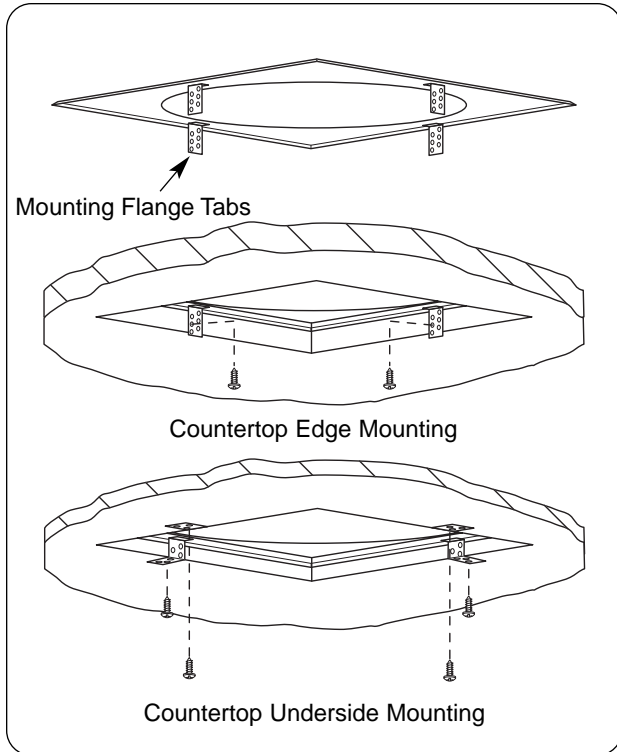

Figure 9. Installation of Mounting Flange Kit
5. Secure mounting flange tabs to edge or underside of combustible countertop using appropriate hardware. (Mounting hardware not provided.) (See Figure 9.)